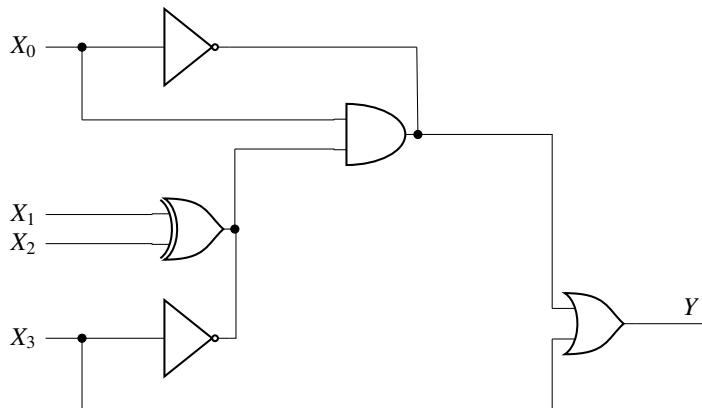

Fig. 3.31
50. In Fig. 3.31, the number of distinct values of $X_3X_2X_1X_0$ (out of the 16 possible values) that give $Y = 1$ is _____. (GATE EC 2018)